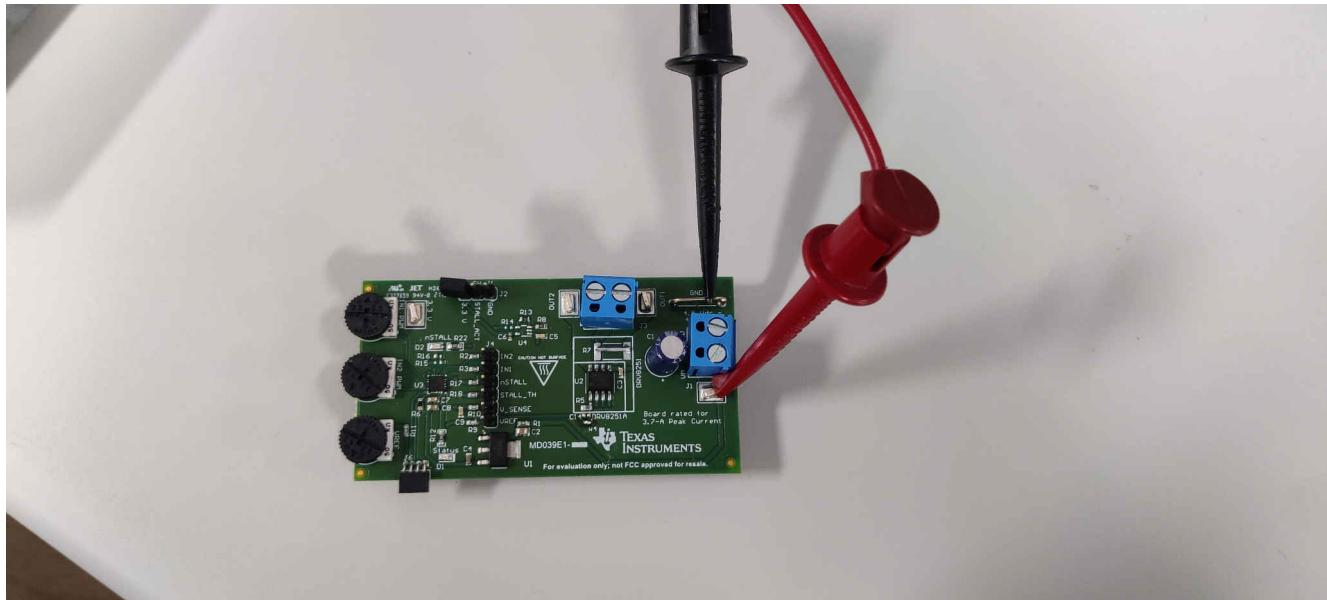

Figure 5-1. Power Connected
2. Connect power supply to connector J1. J1 is positive terminal and GND negative terminal as shown in Figure 5-1.